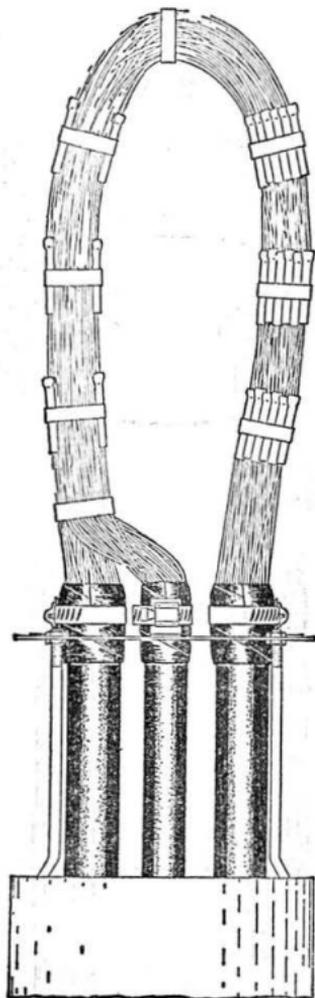

Fig. 3
2.05 A completed splice including three cables is illustrated in Fig. 3. As shown, the units have been split to provide a balanced splice with about the same number of sleeves on each side.